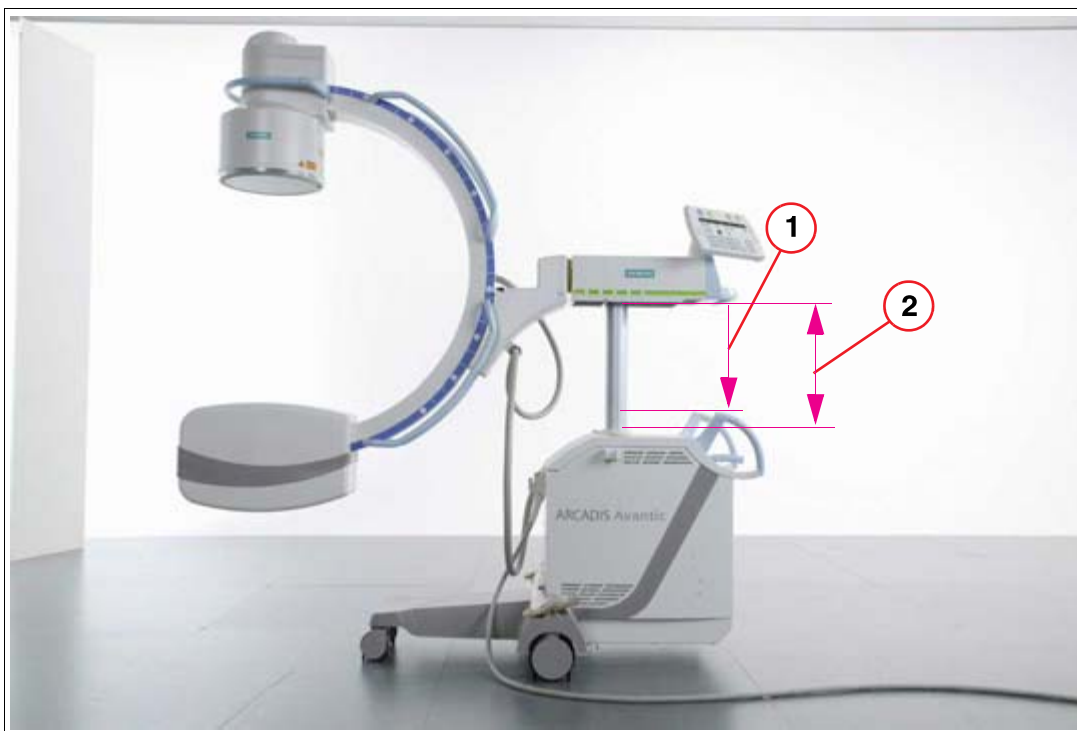

Fig. 4: Function test
- The lifting column moves to position 1 (1/ Fig. 4 / p. 20) and remains there automatically. A stop signal (3 beeps) sounds simultaneously.
- The lifting column can then be moved by a further 7cm to the lowest point, position 2 (2/ Fig. 4 / p. 20). In this area a signal (3 beeps) sounds for safety reasons each time the downward button is pressed.